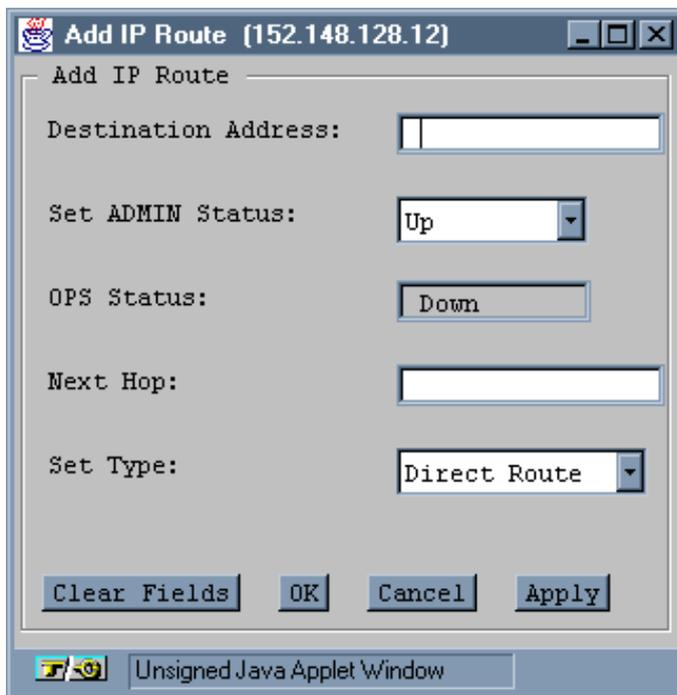

Figure 3-7. Add IP Route Window
2. To add a new IP Route, choose the Add I/P Route button. The Add IP Route window appears (see Figure 3-7).